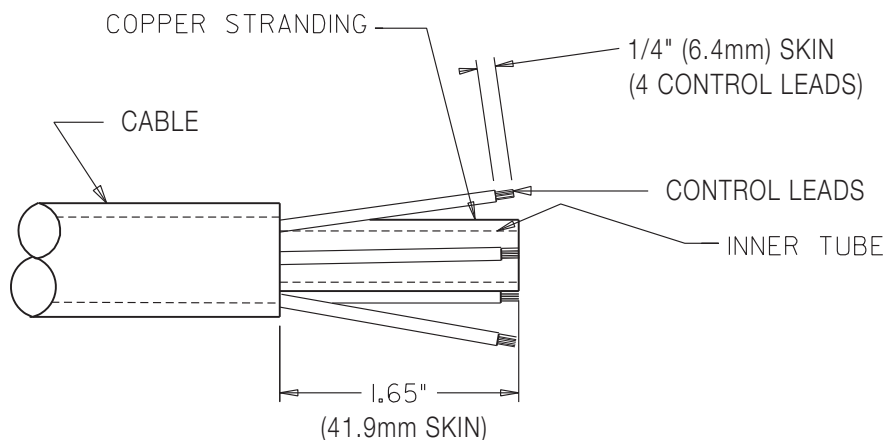

Figure E.2
Cut off damaged section of cable and strip off the outer jacket 1.65 inches back. Be careful not to cut the insulation on the control wires while stripping jacket. Strip all four control leads .25 inch back and crimp a new S19492-2 terminal to both the black lead and the white lead. Remove the leads connected to the red and blue control leads from the cutoff cable and solder these leads to the blue and red leads of the newly trimmed cable. Insulate connections with heat shrink tubing or tape. (See Figure E.2).
- e) Cut off the damaged section of cable and strip off the outer jacket as shown in Figure E.2. Be careful not to cut the insulation of the control wires while stripping jacket. Strip all four control leads .25 (6.4 mm) inch back.